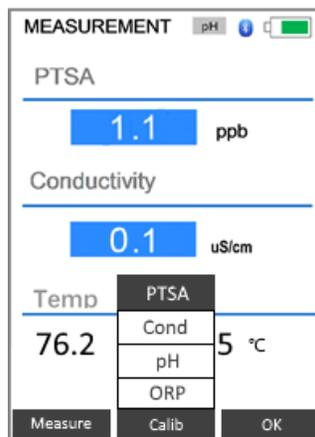

Figure 12
4. Press **Calib** and then **OK** to select **PTSA** (alone) calibration, as shown in Figure 12